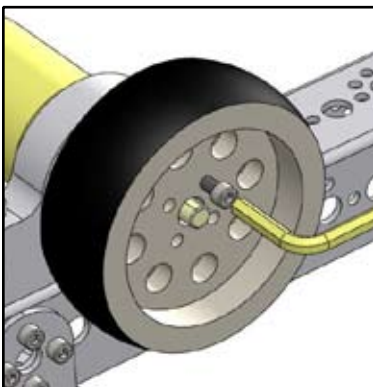
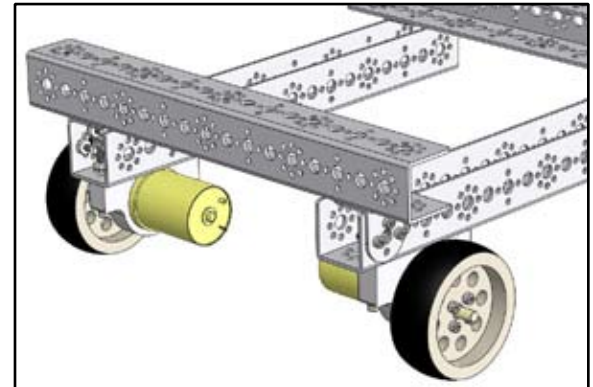

Figure A17
Figure A18
- 4) Attach the wheel to the hub with four 1/2" SHCSs (Figure A17). Flip over the chassis (Figure A18).